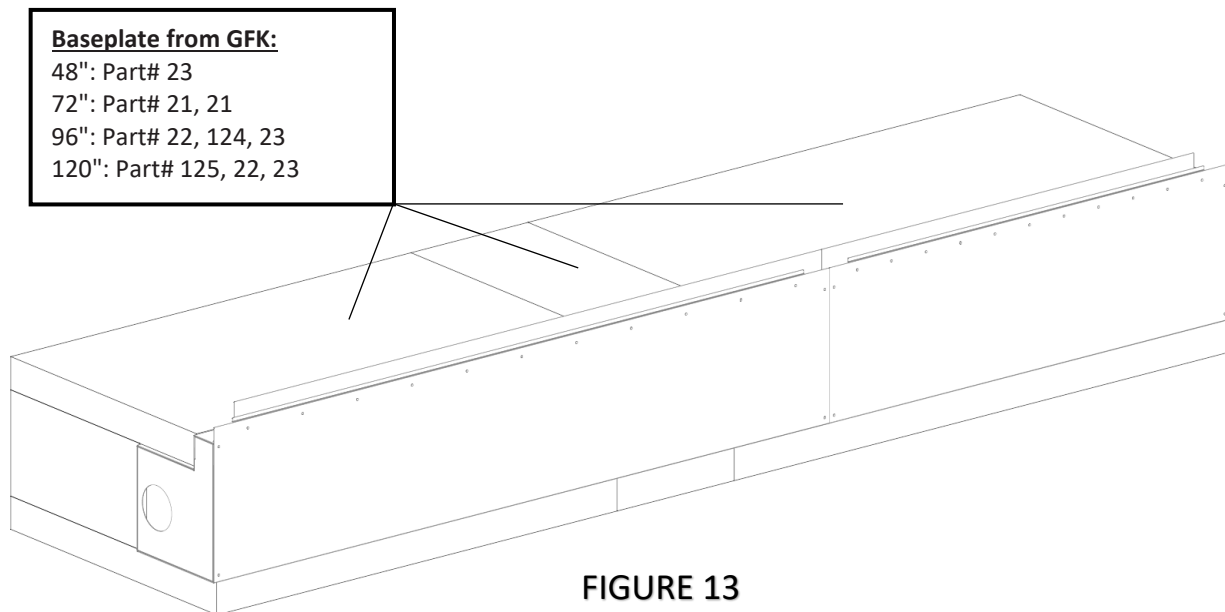

FIGURE 13
- 4) Place the next layer of baseplates from the Glass Front Kit, GFK. These baseplates should rest on the previous layer of back and sidewalls, with the front of the baseplates resting atop and flush with the Air Collector Box shelf. **(Figure 13)**.